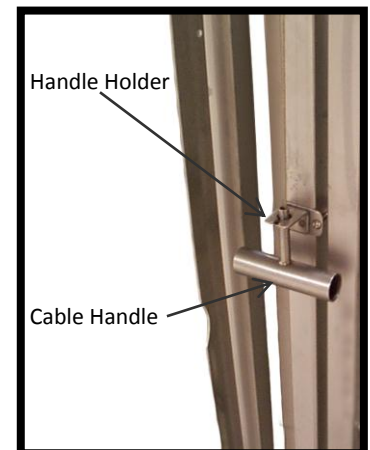

Figure 65: Cable Handle in Handle Holder
8. Place the cable handle in the handle holder (Figure 65).